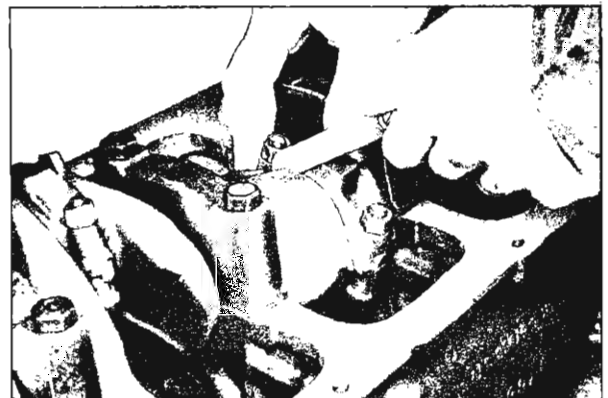

Fig. 57—Check Connecting Rod Side Clearance
- Check connecting rod end clearance between connecting rod cap and side of crankpin (fig. 57). See engine specifications for clearance.